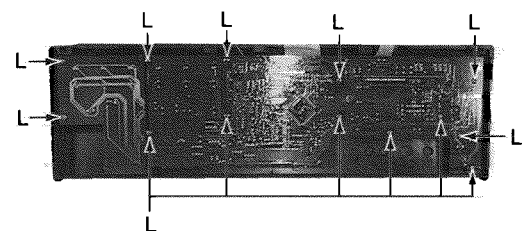

Fig.9
(7) Front P.C.BOARD Removal (Fig.9)